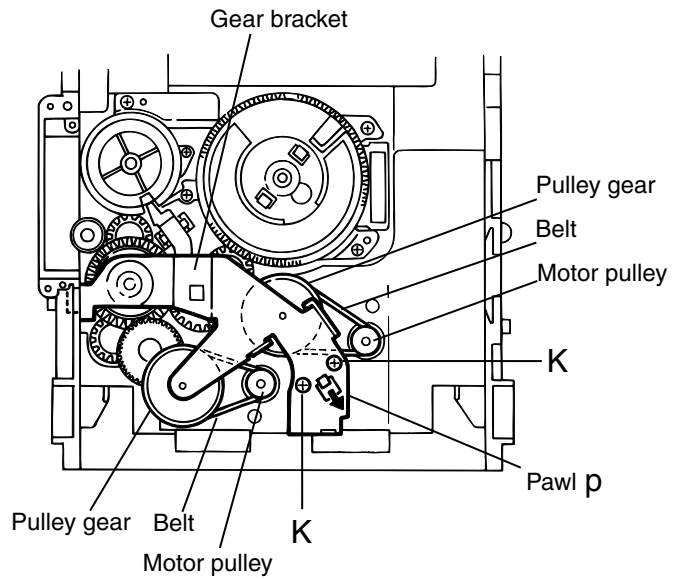

Fig.19
(See Fig.19~ 22)**
(See Fig.19).
4. Remove the belts respectively from the right and left actuator motor pulleys and pulley gears(See Fig. 19).